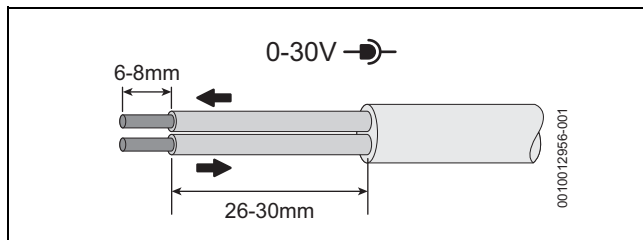

Fig. 54 Low voltage (signal cables) preparation
**Low voltage (signal cables),** example → figure 54